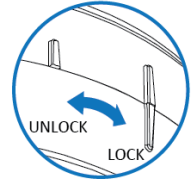

Figure 8
**Note:** The bridge on the camera base (Figure 8) aligns with the 'lock' and 'unlock' bridges on the mount.